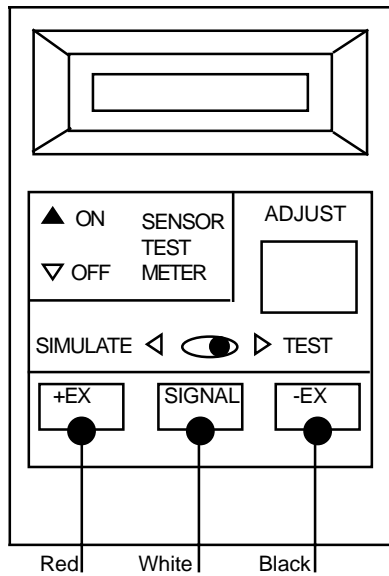

Figure 2-1. K-M Test Meter
The K-M Test Meter (Figure 2-1) is designed specifically to test K-M sensors. If you do not have a Test Meter, disregard this section and proceed to *Testing with Digital Multimeter*.
1. See Figure 2-1. Connect the Microcell's red, white, and black wires to the corresponding Test Meter terminals. Place the Microcell on a stable surface.